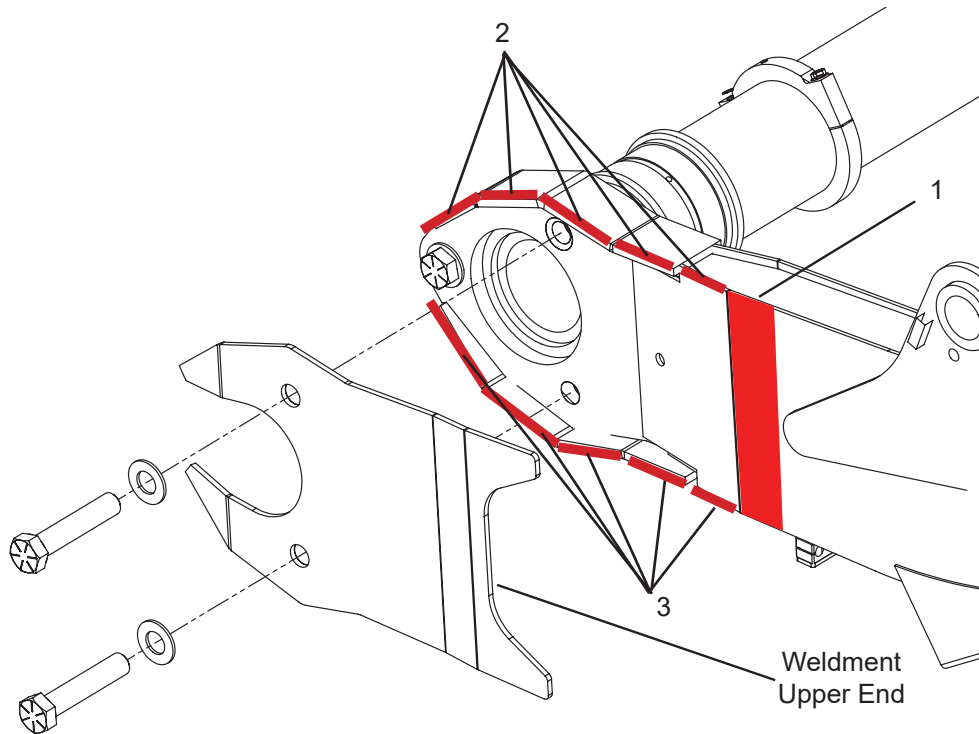

Figure 4
8. Prepare the up facing area of the arm for welding by grinding the areas clean and smooth. Clean the area to be covered by the weldment upper end (plus about 1") (Figure 4, Item 1). Grind the edges and the up facing surface of the arm base (Figure 4, Item 2). Grind the edge and the area of the arm base currently facing down (Figure 4, Item 3). This area will be welded later when the arm base reinforcement top plate is installed and the arms are extended for easier access.